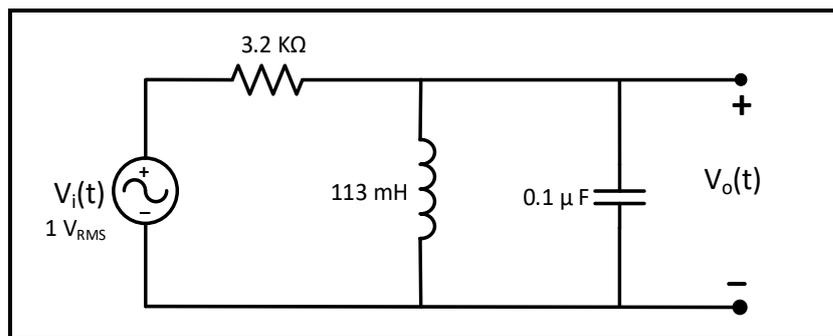

Figure 11.7
4. Repeat steps 1 and 2 for the circuit of figure 11.7.
5. Repeat Step 2 for the circuit of figure 11.7, using $R = 1.6 \text{ k}\Omega$.
6. Repeat Step 2 for the circuit of figure 11.7, using $L = 60 \text{ mH}$.
- Connect the circuit of Figure 11.7, with a sinusoidal input voltage at $1 V_{\text{RMS}}$, use decade box for R.